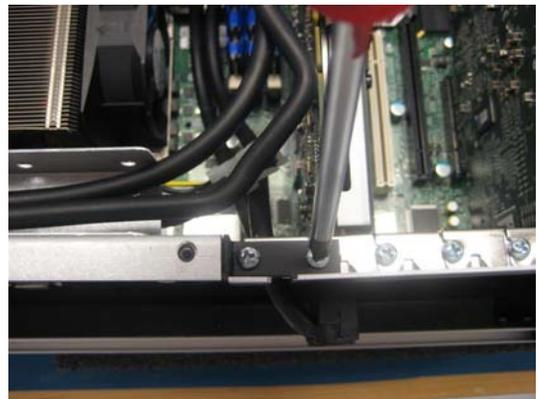
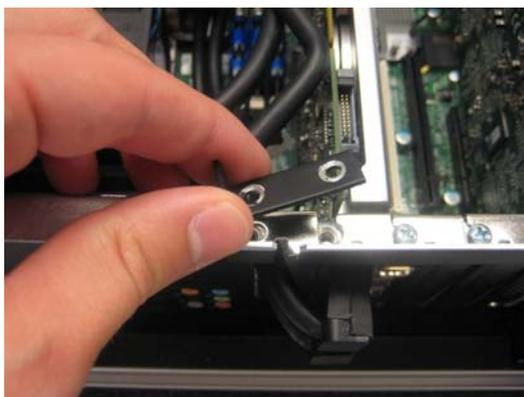
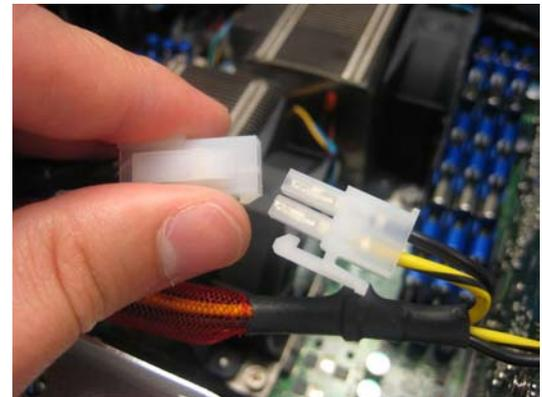

Figure 3-12
Figure 3-13
Figure 3-14
- 4) Remove the shadowbox mending bracket as illustrated in Figure 3-12 and Figure 3-13. Then remove the screw holding the display port cable bracket (Figure 3-14).